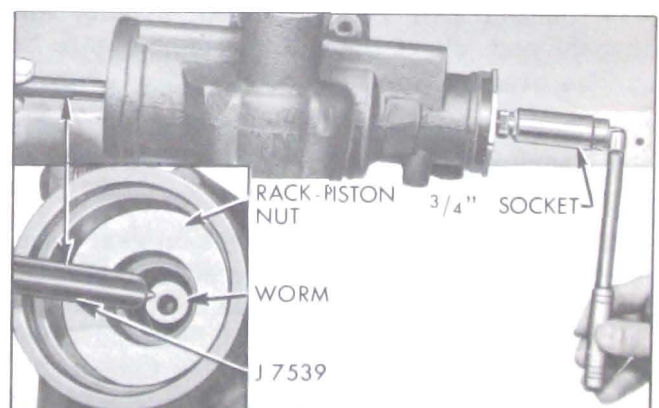

Figure 8-50—Removing Rack-Piston Nut
7. Insert Ball Retaining Tool J-7539 in end of worm. See Figure 8-50. Turn stub shaft so